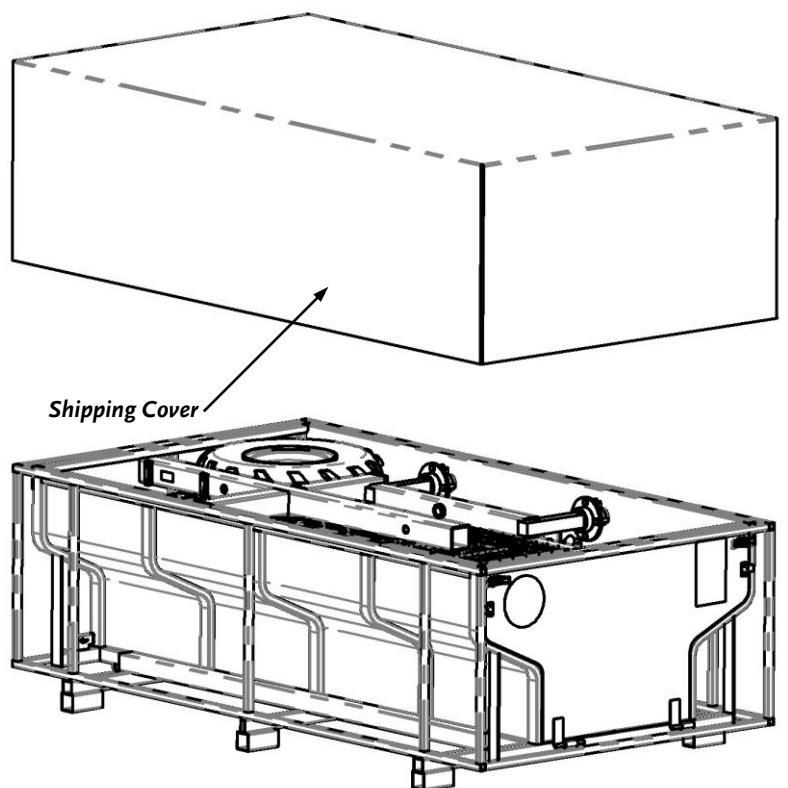

Figure 2
1. Cut the Banding from the Packaging and remove the Shipping Cover from the Shipping Crate and set it aside (**Figure 2**).